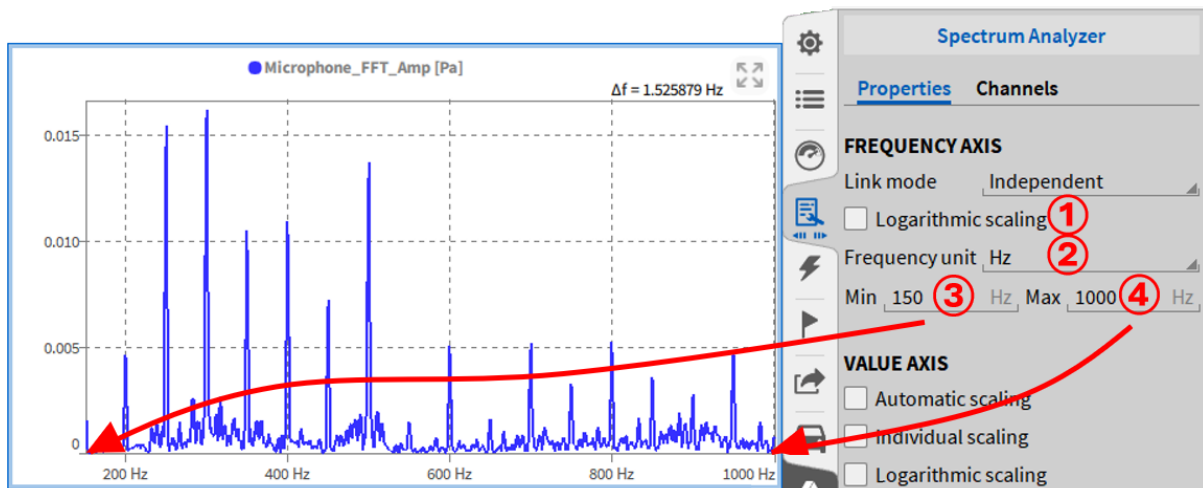

Fig. 8.53: Frequency axis settings
The unit of the X-axis is Hertz [Hz] per default (see ② in Fig. 8.53). The unit can be changed to Cycles Per Minute [CPM] which is defined as [Hz] \* 60. The axis' minimum can be freely defined (see ③ and ④ in Fig. 8.53). The scaling can optionally be set from linear to logarithmic scaling (see ① in Fig. 8.53).